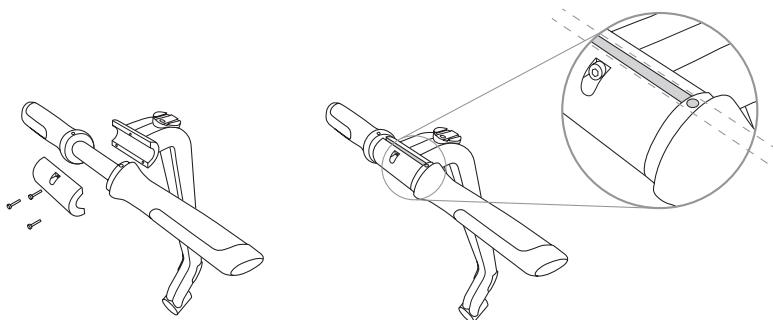

Figure 34. Secure Handlebar to LeanSteer Frame
2. Align the Handlebar in place against the LeanSteer Frame using the alignment guides. See **Figure 34**.